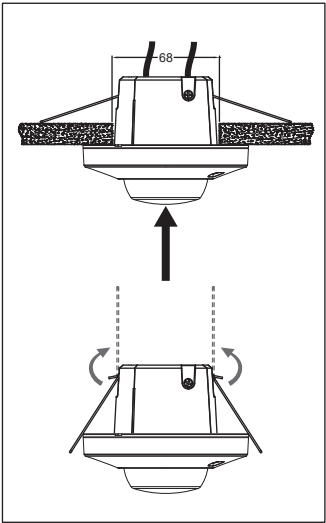

FIG.5
- 4. Raise the two spring clips, and insert the detector into the drilled hole on ceiling (See FIG.5)